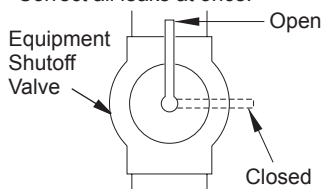

Figure 15 - Equipment Shutoff Valve
1. Close equipment shutoff valve (see Figure 15).
1. Open equipment shutoff valve (see Figure 15, page 15).
4. Close equipment shutoff valve (see Figure 15, page 15).